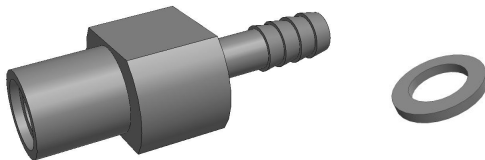

Fig 10. HTHP Cell Vacuum Pump Connector and Silicone Gasket
Specac supplies a vacuum pump kit P/N GS03640, consisting of a suitable vacuum pump and relevant tubing and fittings for connection to any vacuum line (VP) created for the system. Supplied with the kit of parts for the HTHP Cell is a specific vacuum pump connector and a corresponding silicone gasket for use of the vacuum pump P/N GS03640. (See Fig 10.) The connectivity of these parts is provided from the user instruction manual for the vacuum pump P/N GS03940.